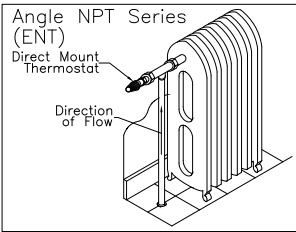

Fig. 3 Typical Installation of Valve (Angle Body) on Radiator
- Use the following procedure (Fig. 3):